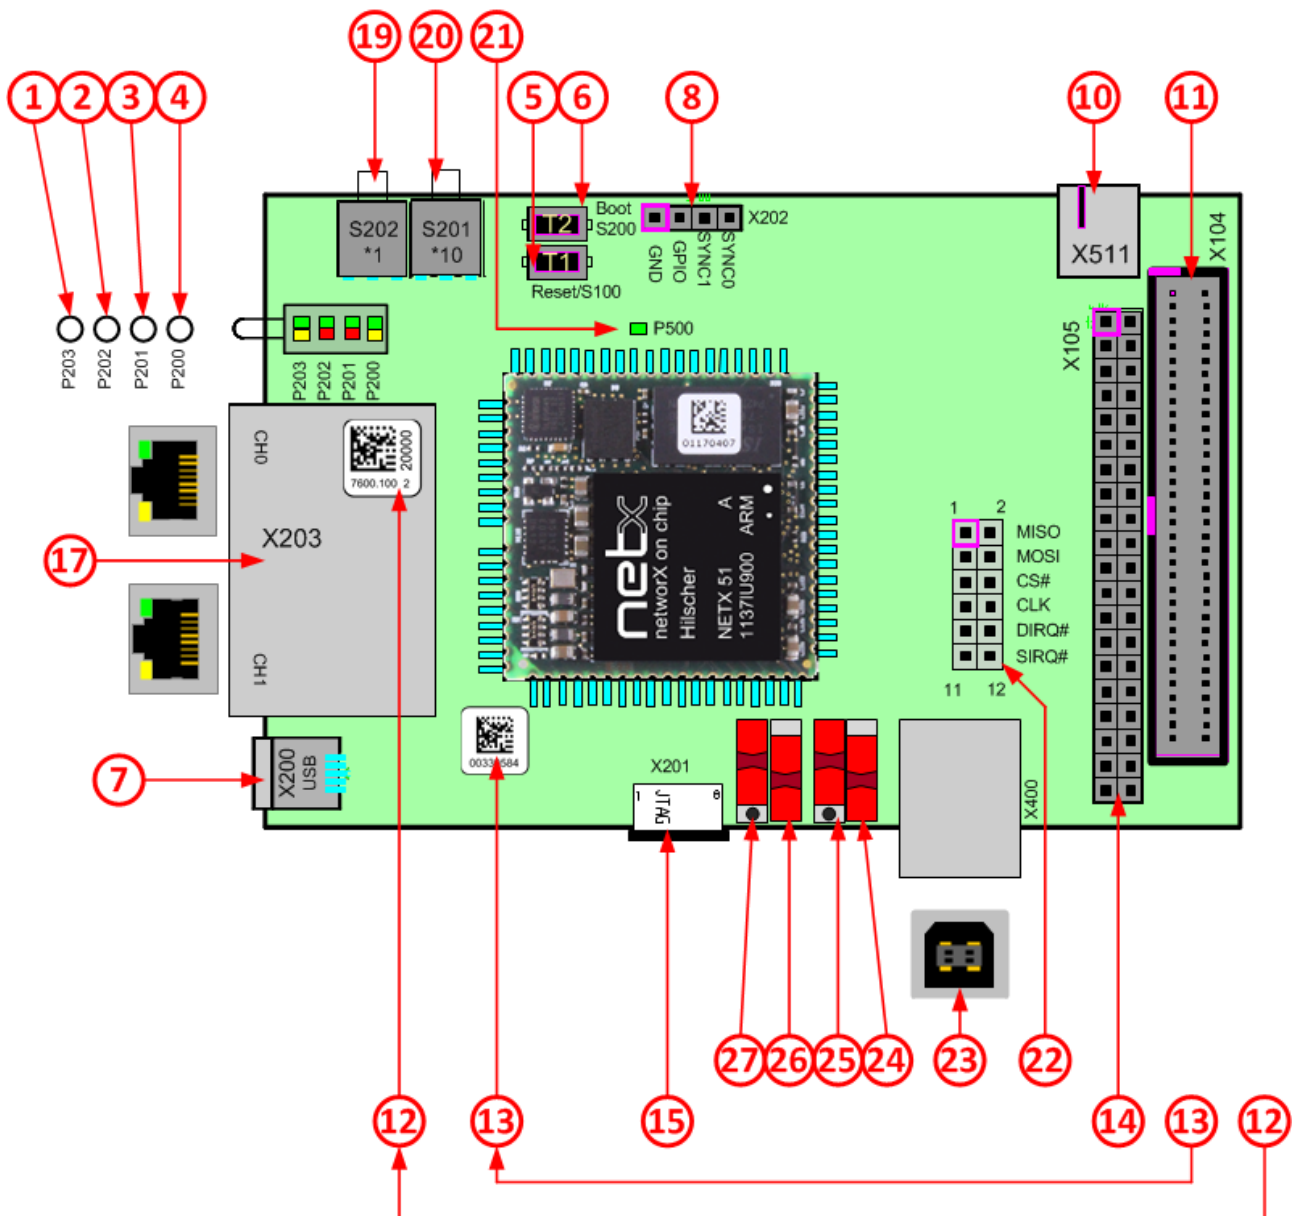

Figure 21: Evaluation Board NRPEB 51-RE
- Figure 21 on page 48 for NRPEB 51-RE, and